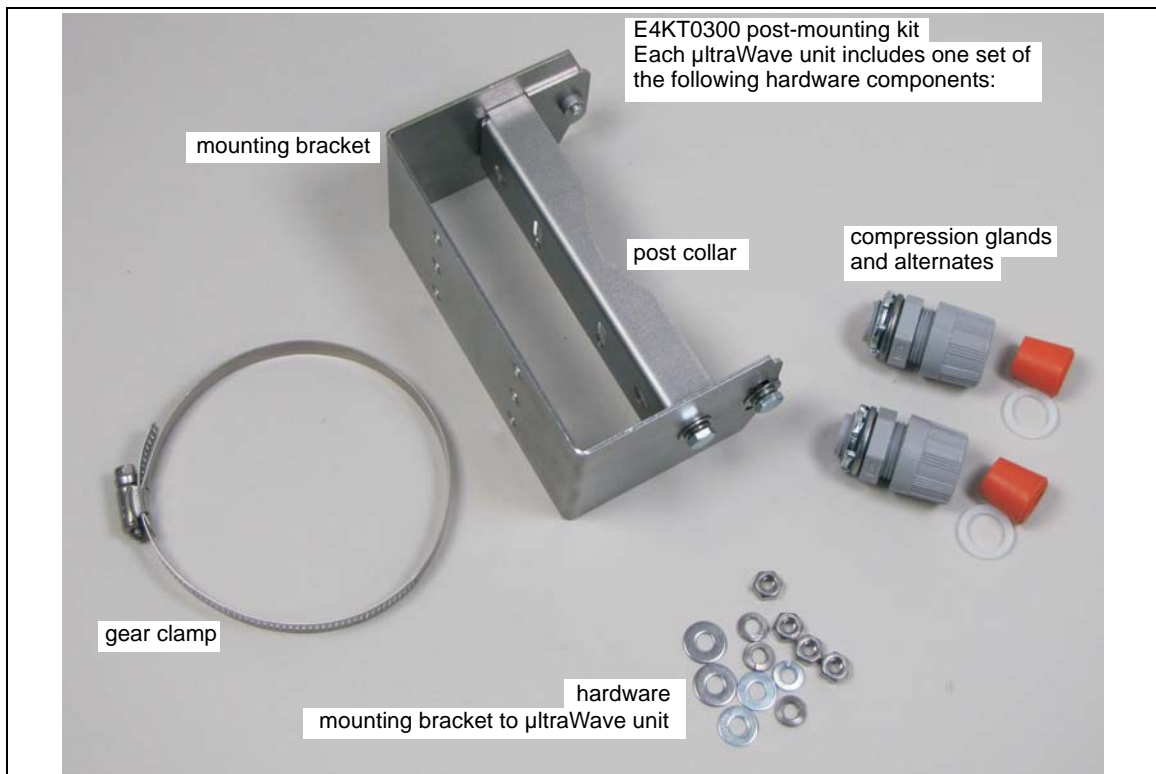

Figure 8 Mounting hardware/alignment aid
Mount the transmitter and receiver units on their respective posts, using the hardware provided in the post-mounting kit (p/n E4KT0300, see Figure 8). The mounting height of the transmitter and receiver units is measured from the center of the antenna to the ground's surface. As an alignment aid, the cover over the antenna includes an embossed X-pattern, that indicates the center of the antenna. The μ ltraWave units can also be mounted on a wall or other flat stable surface. Both the transmitter and receiver units must be mounted at the same height above ground. After mounting, the two units must be aligned to point directly at each other.
4. Wrap the gear clamp around the post and measure the mounting height of the μ ltraWave unit from the center of the antenna (see Figure 8) to the ground's surface.
- Hold the μ ltraWave unit against the mounting surface and measure the mounting height of the unit from the center of the antenna to the ground's surface (see Figure 8). Mark the mounting surface at the centers of the two slots in the post collar.